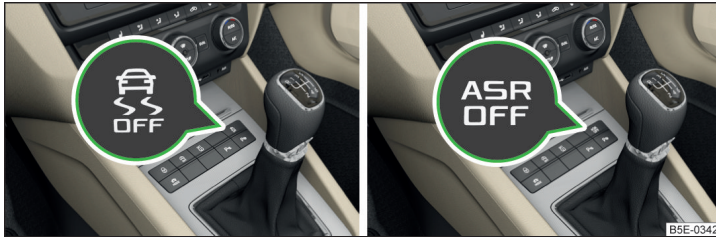

Fig. 137 System button: Vehicle with ESC / vehicle without ESC
- By pressing the Symbol key  for the activation and briefly pressing the button for the deactivation » Fig. 137 on page 139.
- By briefly pressing the symbol key  » Fig. 137.